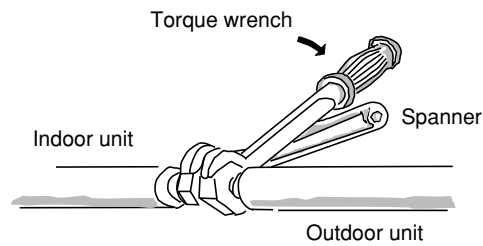

Fig. 7-6
- (1) Tightly connect the indoor-side refrigerant tubing extended from the wall with the outdoor-side tubing.
- (2) To fasten the flare nuts, apply specified torque as at right:
- When removing the flare nuts from the tubing connections, or when tightening them after connecting the tubing, be sure to use 2 monkey wrenches or spanners as shown. (Fig. 7-6) If the flare nuts are over-tightened, the flare may be damaged, which could result refrigerant leakage and cause in injury or asphyxiation to room occupants.